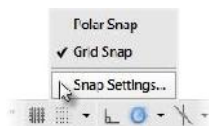

FIGURE 3.5: Displaying the Drafting Settings dialog box
2. To open the Drafting Settings dialog box, right-click the Snap Mode button and then choose Snap Settings from the context menu that appears (see Figure 3.5).